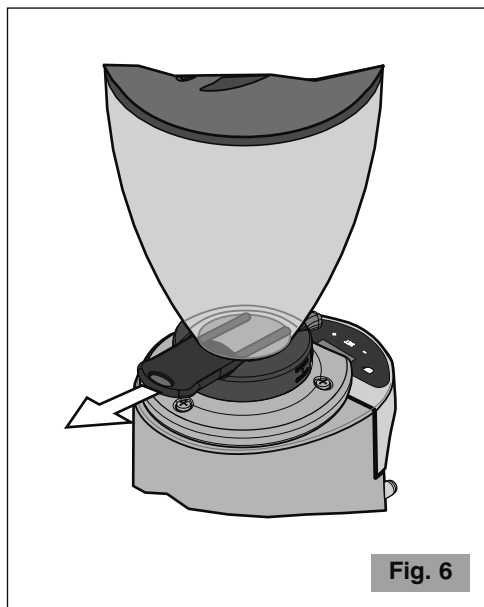

Fig. 6
**!** Make sure that shutter is completely open (to the last click) (see Fig. 6).